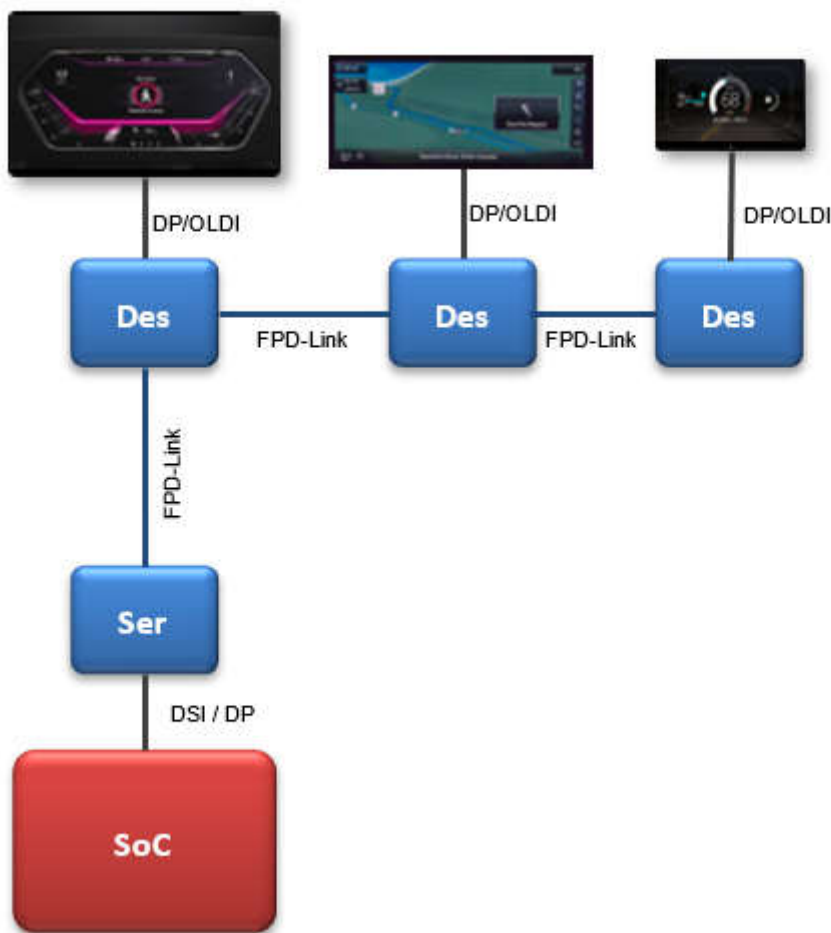

Figure 2-2. Daisy-Chain Topology
- **Daisy-Chain:** Modern vehicles, particularly new energy and premium models, are typically equipped with multiple screens. In such multi-display systems, daisy-chaining plays a critical role. Daisy-chain topology allows a single SoC interface to drive multiple displays or audio processing modules. It also resolves the issue of complex, heavy, and expensive wiring that would otherwise result from connecting each display to the host with independent cables. The topology is illustrated in Figure 2-2.